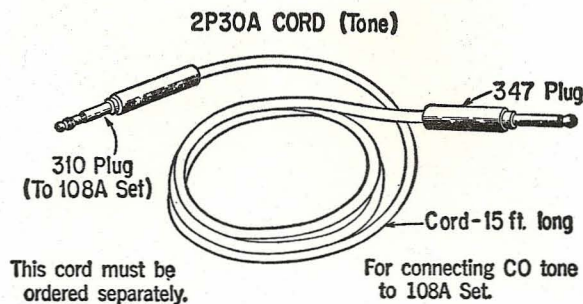

Fig. 15
6.02 The 2P30A Cord is illustrated in Fig. 15.